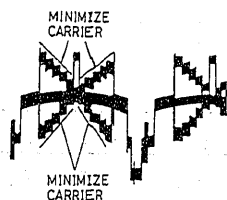

Fig. 4-9
(10) White Balance Adjustment (Figs. 4-9, 4-51)